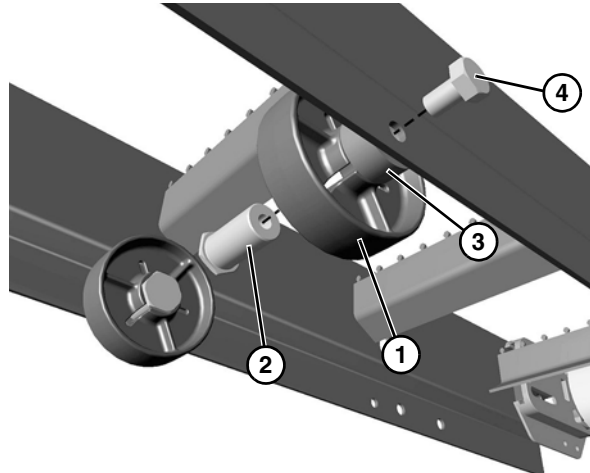

Figure 17
1. Install each return disk (**Figure 17, item 1**) onto conveyor frame with stub shaft (**Figure 17, item 2**), spacer (**Figure 17, item 3**), and cap screw (**Figure 17, item 4**).